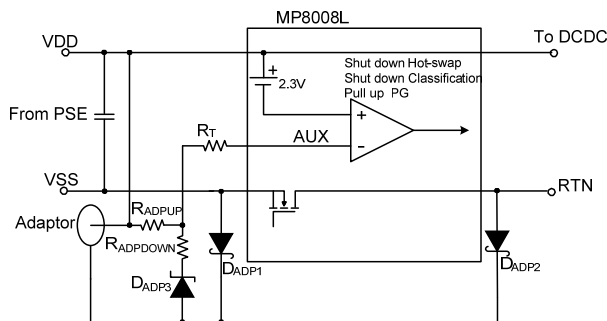

Figure 4: Adaptor Power Detection
The MP8008L uses wall power adaptor detection for applications where an auxiliary power source, such as a wall adapter, is used to power the device (see Figure 4). Once the input voltage (VDD - VSS) exceeds about 11.5V, the MP8008L enables wall adapter detection. The wall power adaptor detection resistor divider is connected from VDD to the negative terminal of the adapter, and  $D_{ADP3}$  is added for a more accurate hysteresis. There is a -2.3V reference voltage from AUX to VDD for adapter detection. The adapter is detected when the AUX voltage triggers, as shown in Equation (1):